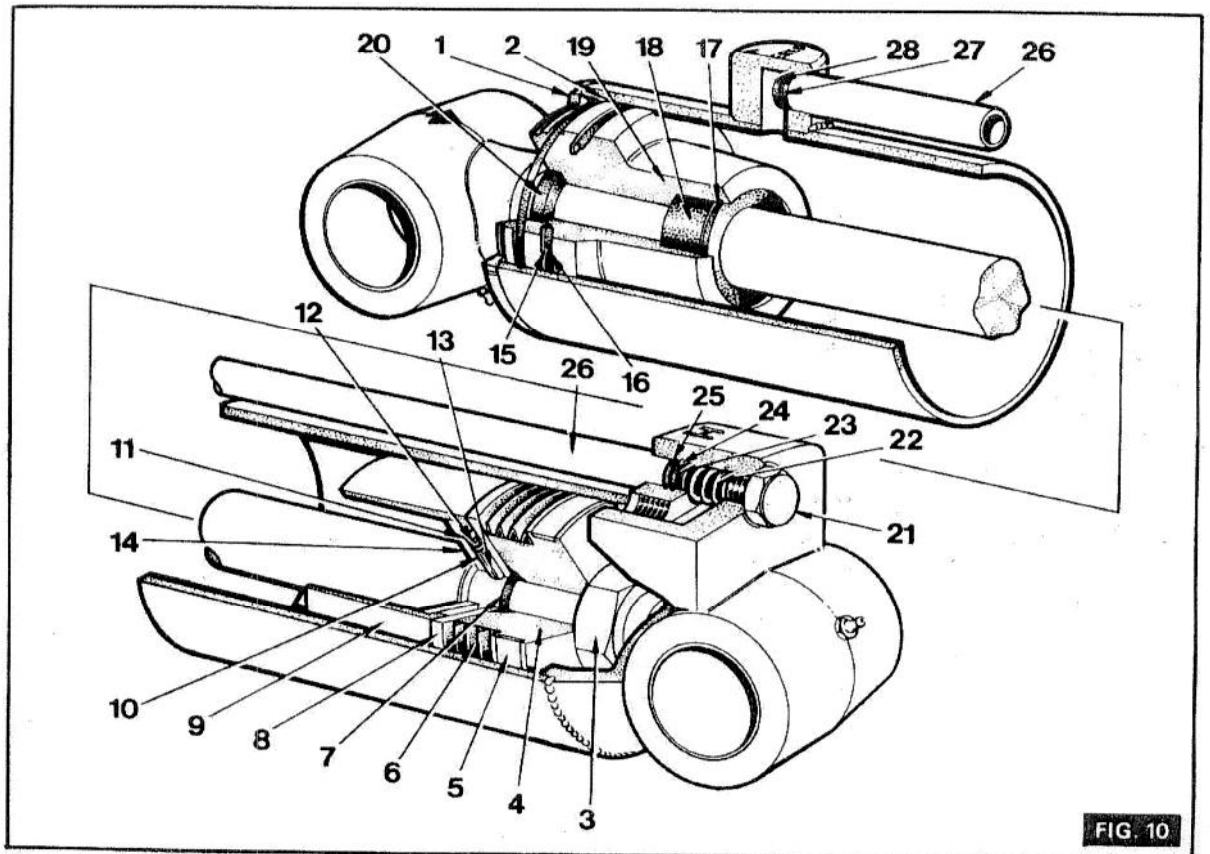

FIG. 10
3. (Fig. 10) With a 'C' Spanner turn the bearing nut (1) in an anti-clockwise direction, remove it from the bearing and rest it on the piston rod.
4. Tap the bearing approximately 1½" (38.1 mm) into the barrel to allow the removal of the lock ring (2).
3. (Fig. 10) Fit 'O' ring (27) and back up washer (28) to the tube (26), then 'O' ring (24) and back up washer (25).
4. Insert the tube then replace the shims (23). If new tube is to be fitted shim between the tube and spring to ensure a dimension of $1\frac{1}{4}'' \pm 1/32''$ (31.75 \pm 0.793 mm) between the top of the shims and spot face of the plug (Fig 10 Dimension A).
5. Replace spring (22) then refit plug (21) complete with new 'O' ring.
6. Reassemble the bearing (19) with the new back up washer (15) and new 'O' ring (16).
7. Refit a new wiper seal (20).
8. Refit a new seal set (18) and secure in position with the snap ring (17).
9. Slide the bearing lock nut (1) and lock ring (2) onto the piston rod.
11. Fit the retaining washer (14) up to the shoulder in the rod then fit a new roll pin (13) into the hole in the rod and press to bottom of the hole.
12. Tap a new roll pin (12) into the roll pin (13) until $\frac{1}{4}'' \pm 1/32''$ (6.35 \pm 0.793 mm) only protrudes above roll pin (13).
13. Fit stepped end of retaining pin (10) into hole in sleeve (9).
14. Position new spring (11) on top of roll pin (12). Hold spring compressed using a thin strip of metal then slide the sleeve onto the piston rod.
1. (Fig. 10.) Remove the ram as stated in operation 9G/11.
2. Carry out items 2 to 7 and 11 to 15 of operation 9G/9.
1. (Fig. 10) Carry out items 1 to 10 of operation 9G/10.
2. Replace the packing retaining washer (14) then carry out items 16 to 21 of operation 9G 10.